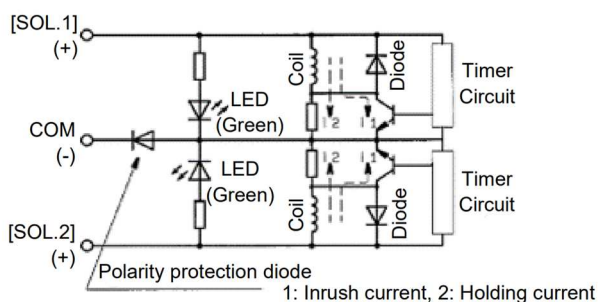

Fig. 9. Solenoid electric circuit diagram
- Fig. 9 shows a diagram of the solenoid electric circuit of this product. The solenoid circuit of this product has an energy-saving circuit. After the solenoid is energized, the energy-saving circuit functions when 62 ms have passed according to a timer circuit. Be careful about the allowable voltage fluctuation since a voltage drop of about 0.5 V occurs due to a transistor. For the power consumption and allowable voltage fluctuation, refer to the catalog.